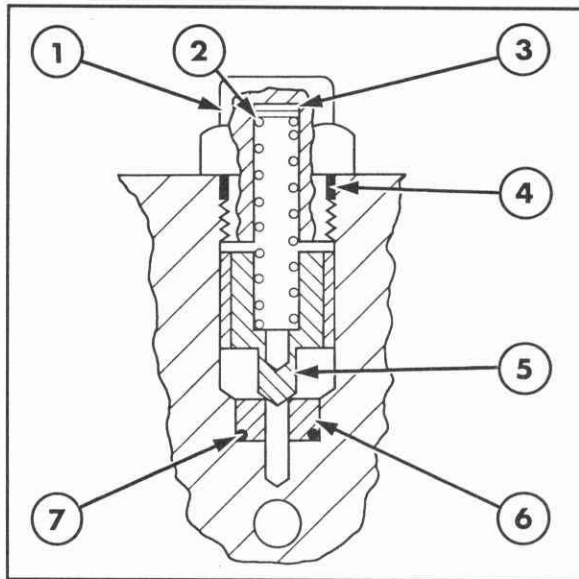

Figure 7-47
3. Remove the pressure relief valve, Figure 7-47, from the pump body.